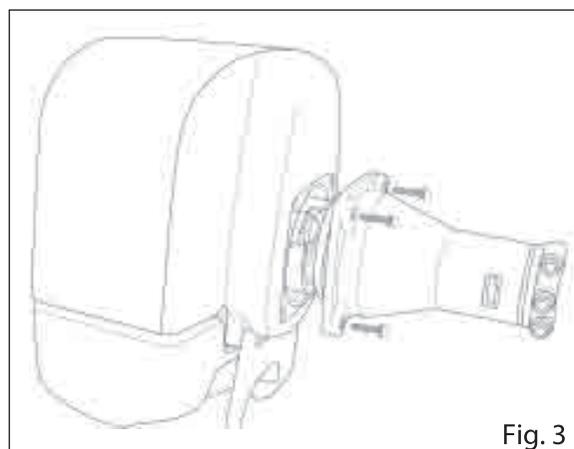

Fig. 3
- Using the four included screws, attach the engine of the brush cutter to the shaft (see fig. 3).